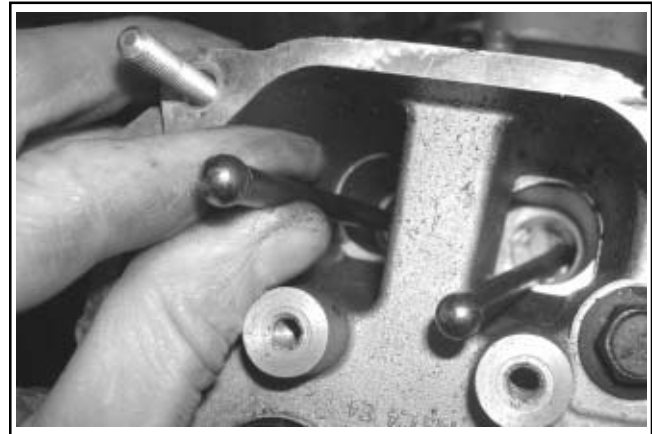

Figure 11-45. Install Push Rods in Their Original Position.
1. Note the mark or tag identifying the push rod as either intake or exhaust and cylinder #1 or #2. Dip the ends of the push rods in engine oil and install, making sure that each push rod ball seats in its hydraulic lifter socket. See Figure 11-45.